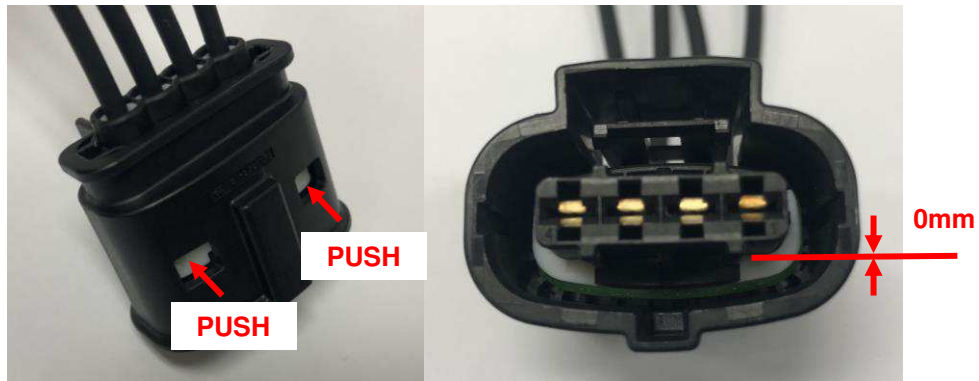

Fig. 8
(1) After all cavities are filled by Contacts properly, insert TPA into Housing to deep end and complete Final Lock condition as shown in Fig.8. Operation is completed when contact is latched and the insertion is stopped.